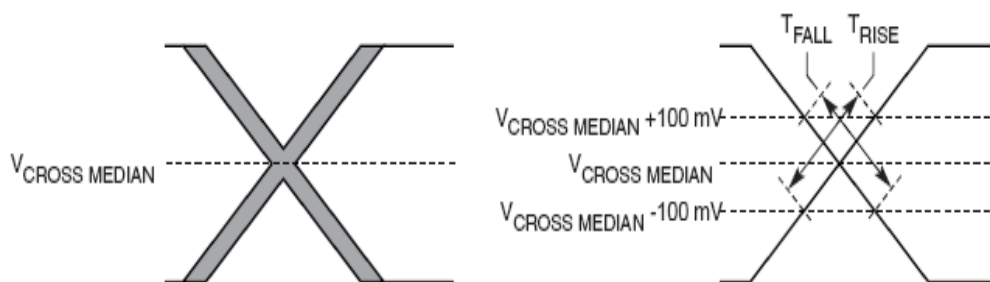

Figure 51. Single-Ended Measurement Points for Rise and Fall Time Matching
- Matching applies to rising edge for SD_n_REF_CLK and falling edge rate for SD_n_REF_CLK. It is measured using a 200 mV window centered on the median cross point where SD_n_REF_CLK rising meets SD_n_REF_CLK falling. The median cross point is used to calculate the voltage thresholds that the oscilloscope uses for the edge rate calculations. The rise edge rate of SD_n_REF_CLK should be compared to the fall edge rate of SD_n_REF_CLK, the maximum allowed difference should not exceed 20% of the slowest edge rate. See Figure 51.